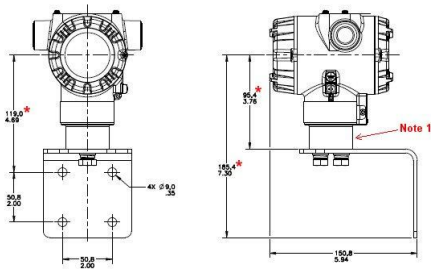

Figure 2 – STT850 with adapter housing - Horizontal Wall Mounting
*** Note 1:** In Figures 2, 3 and 4, Housing adapter may not be present on all transmitter models. If the housing adapter is not present, subtract 24,5mm (0,96 inches) from the dimension specified.